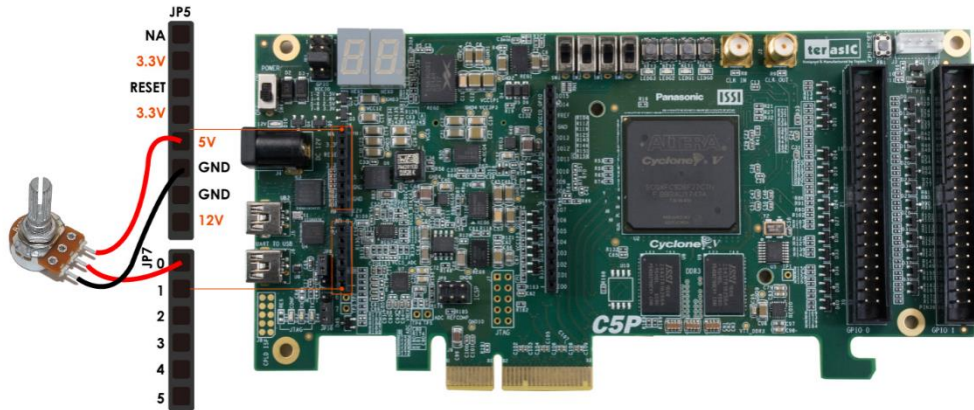

Figure 5-20 ADC Reading Demo hardware setup
- As shown in **Figure 5-20** ,connect the Trimmer Potentionmeter to corresponding ADC channels on the Arduino IO header. **Please make sure working on the ADC channels (AD4 or AD5) by referring to Table 3-12.** Conenct the Trimmer Potentionmeter input to JP5 5V(Pin5) & GND(Pin6 or Pin7) , and connecct the